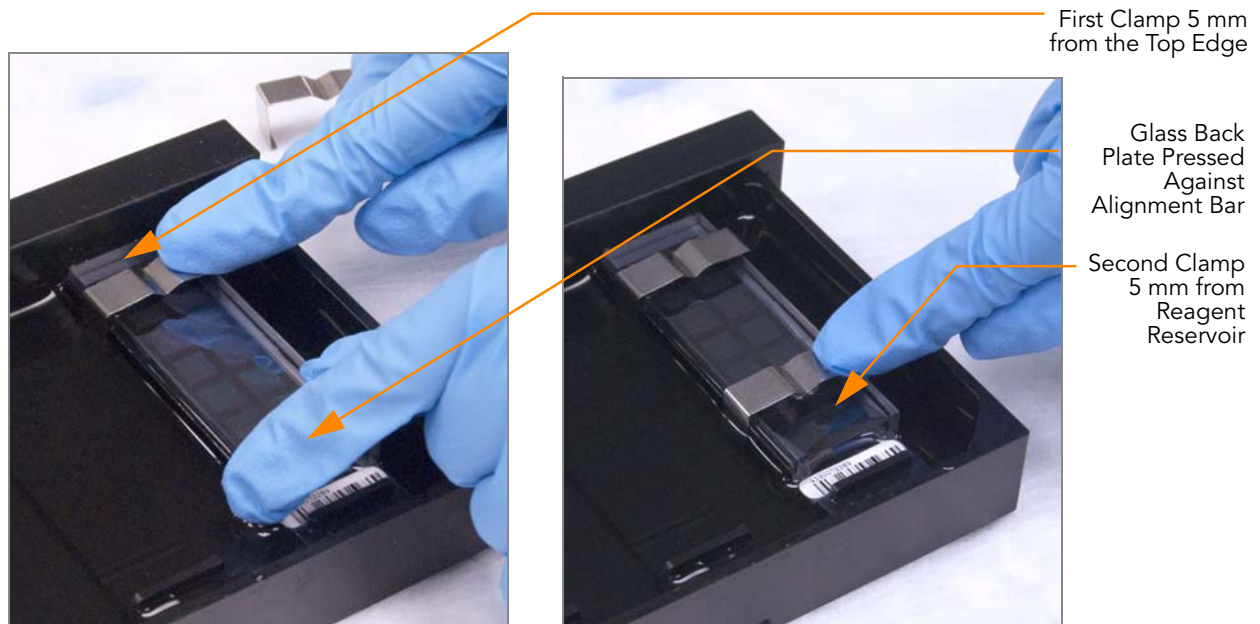

Figure 152 Securing Flow-Through Chamber Assembly with Metal Clamps
8. Attach the metal clamps to the Flow-Through Chambers as follows (Figure 152):